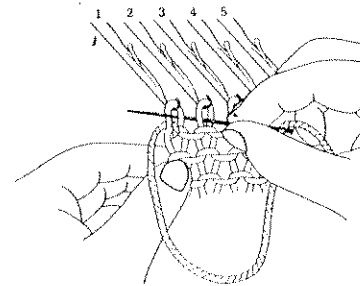

Fig. 92
- (B) Insert the needle into the second stitch and back through the first stitch. (Fig. 92) Then insert the needle into the third stitch back through the second stitch pulling the yarn snug.